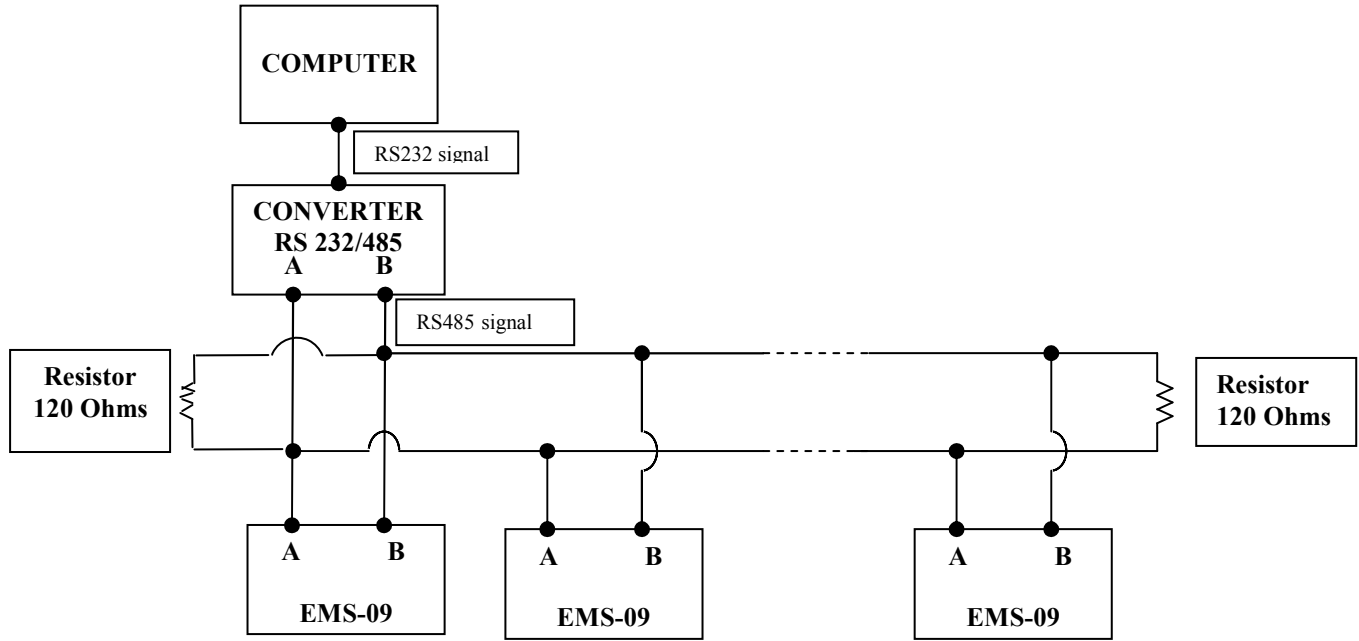

Fig. 3
**RS-485:** Connect terminals ‘7’ & ‘8’ from the unit (‘A’ & ‘B’ terminals from the unit) to the converter terminals ‘A’ & ‘B’. And connect the other end of the converter having DB-9 pin serial port to the computer (distance should be less than 5 meters). Multiple units that can be connected in daisy chain fashion as shown in Fig.3. Maximum units that can be connected will be up to 32 units & terminate network on either side with 120 ohms resistor. Transmission distance between RS232/485 converter and terminating unit should not exceed more than 1.2 Kilo Meters as shown in figure below.